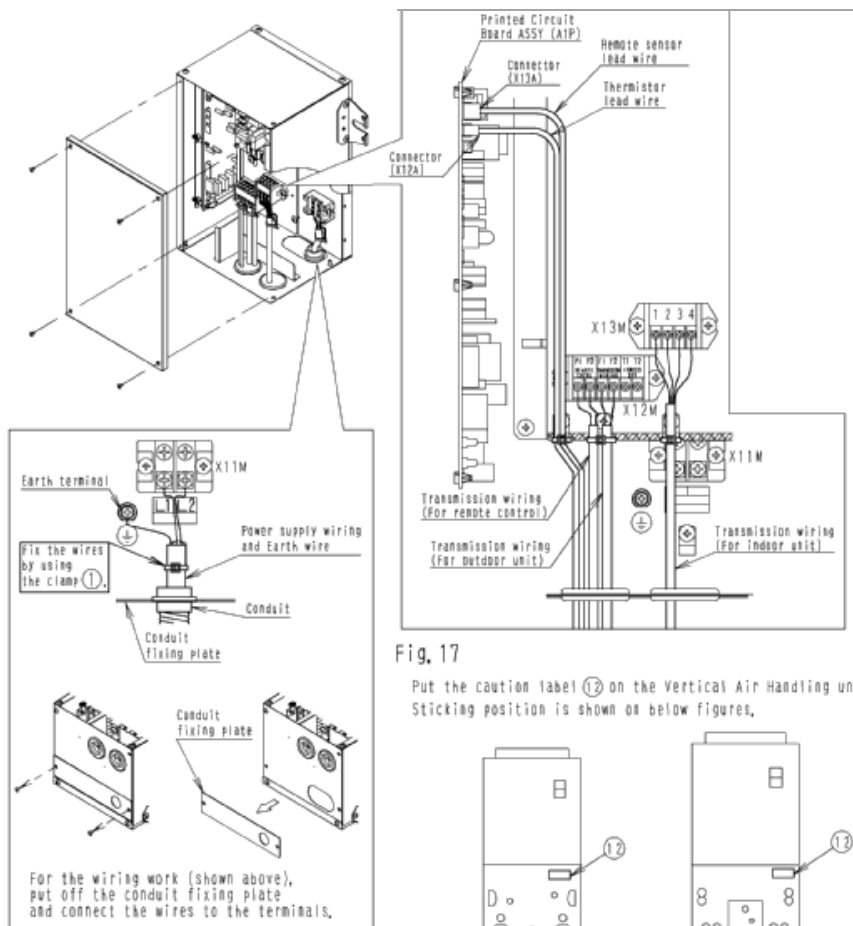

Fig. 17
- As shown in Figure 17, loosen the 4 screws on the control box lid, remove it, and conduct wiring work.
2. Bundle the remote sensor lead wire using the included clamp (1).
- Thermistor Lead Wire (8):